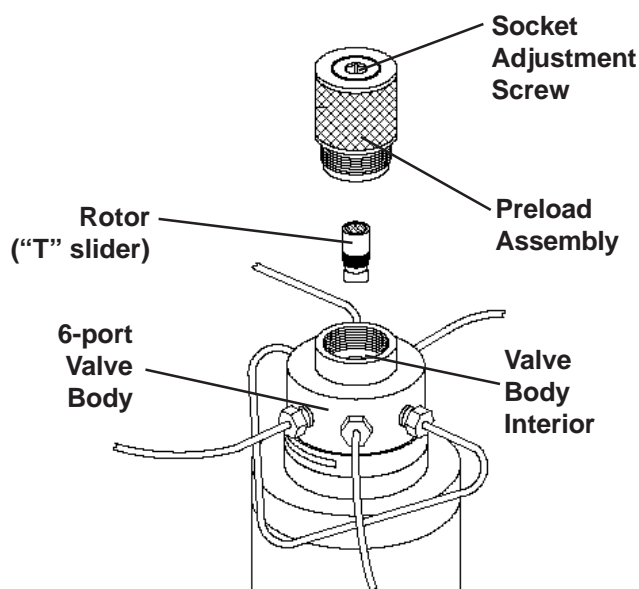

Figure HT-6 Removing the 6-port Valve Rotor
3. Unscrew the knurled preload assembly from the valve body (Figure HT-6). Do not tamper with the preset socket adjustment screw